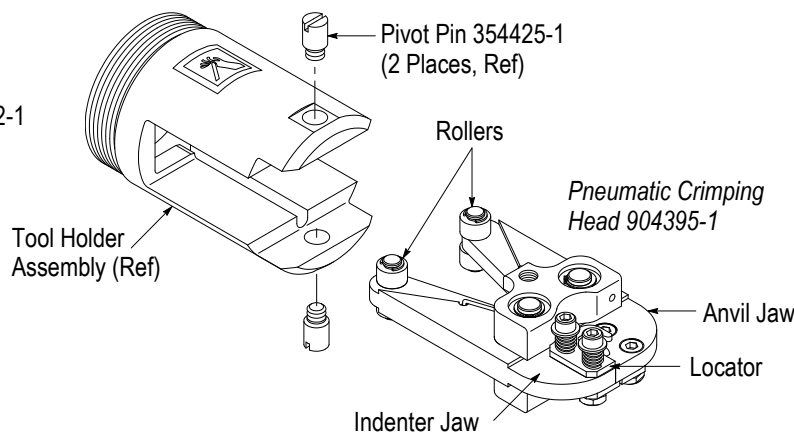

Figure 1
## 2. DESCRIPTION (Figure 1)
1. Remove the pivot pins from the tool holder. Refer to Figure 1.
2. Insert the crimping head into the tool holder assembly as shown in Figure 1.